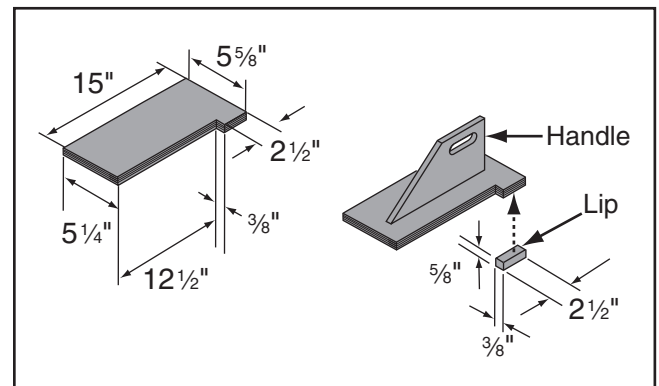

Figure 90. Push block dimensions and construction.
3. Using the $\frac{3}{4}$ " material you used in the previous steps, cut out pieces for the push block per the dimensions shown in **Figure 90**; for the handle, cut a piece 10" long by 5"-9" high and shape it as desired to fit your hand.